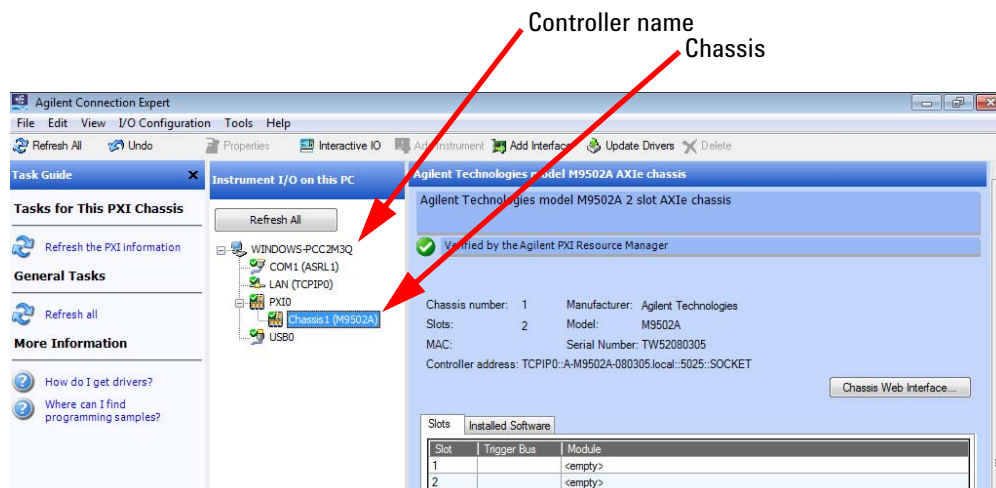

Figure 12 Agilent Connection Expert for an AXIe Embedded Controller
- 2 **Figure 12** below shows Agilent Connection Expert (with the M9536A Embedded Controller listed as the PC). Refer to the Agilent IO Libraries documentation for information on using Connection Expert.